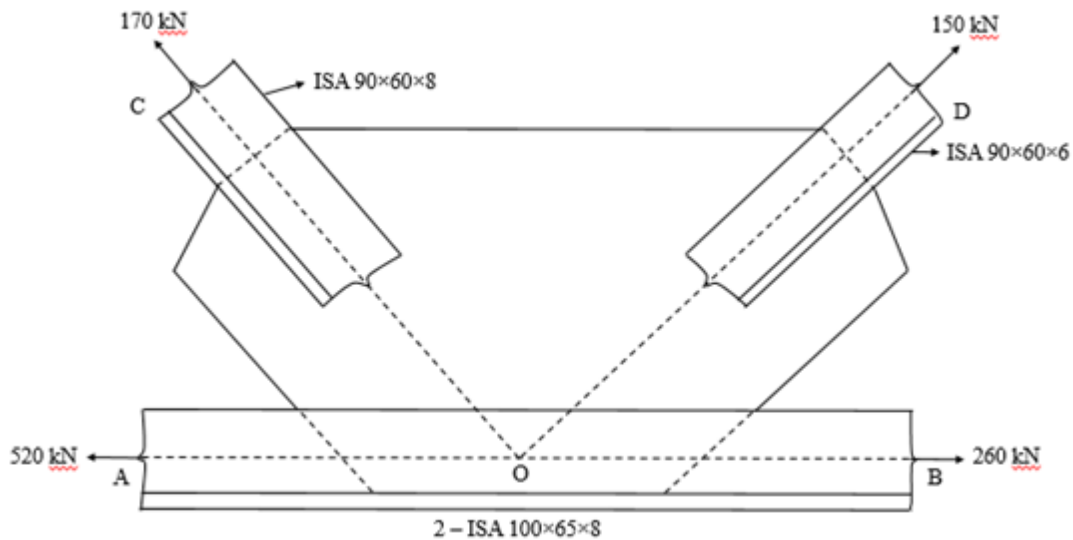

Fig 2
- (c) Calculate the number of M18, grade 4.6 bolts required for the connection of the member OC as shown below in the figure 2. Thickness of gusset plate is equal to 14 mm, assume pitch and end distance 50 mm and 35 mm respectively. Consider Fe410 grade of steel. (Assume the given loads are multiplied with suitable factor of safety).